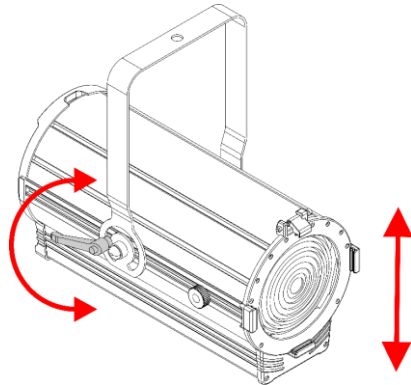

Fig. 07
- 01) Turn the **adjustment handle (06)** counterclockwise to loosen it.
- 02) Tilt the device to the desired angle (see Fig. 07).
- 03) Turn the **adjustment handle (06)** clockwise to tighten it. Make sure that the device cannot move freely after the **adjustment handle (06)** is tightened.